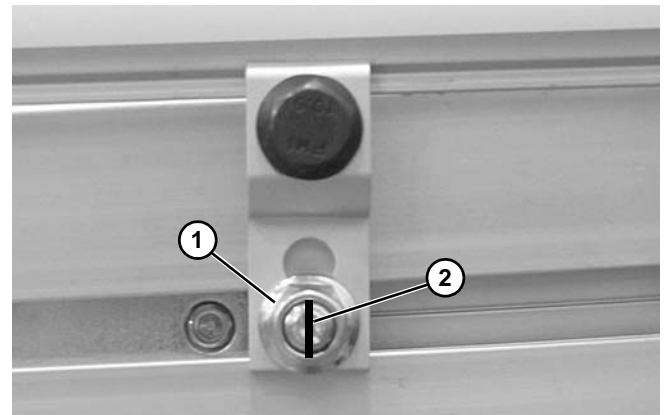

Figure 85
- Tighten nuts (**Figure 85, item 1**).
Be certain that slot (Figure 85, item 2) is close to vertical when finished tightening nut.